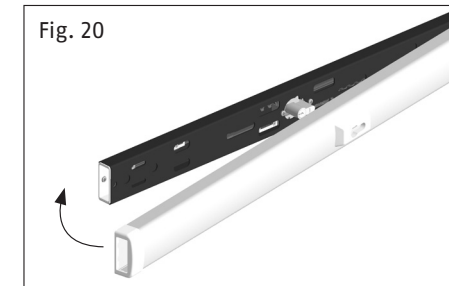

Fig. 20
3. Press down the cover onto the lock body (Fig. 20).